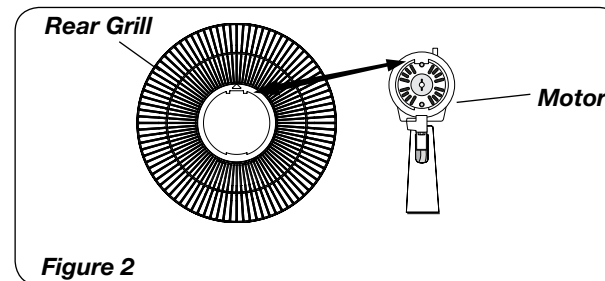

Figure 2
2. Align tab of *Rear Grill* with groove on top of front *Motor cover*. (Figure 2)